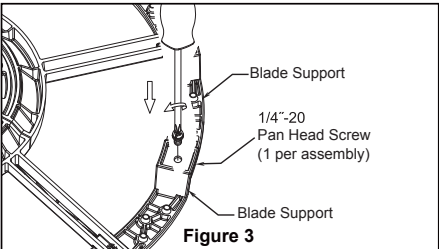

Figure 3
3. Position blade support under another blade support and aligning blade support holes with hole in another blade support. Make sure the blade support is fully seated against and install with 1/4"-20 screws. (Figure 3)